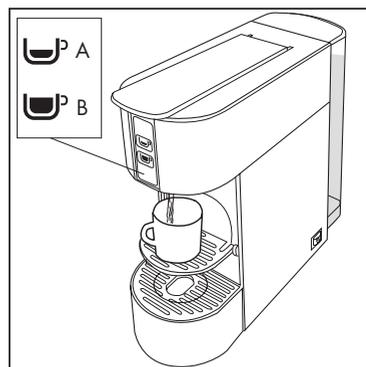

Fig.8
**Big cup:** Press and hold the button (B). The machine will start delivering water. Once the desired water level is reached release the button (B). The machine will then stop delivering water and the desired quantity will be memorized for future dispensing. **(Fig.8)**
**Small cup:** Press and hold the button (A). The machine will start delivering water. Once the desired water level is reached release the button (A). The machine will then stop delivering water and the desired quantity will be memorized for future dispensing. **(Fig.8)**